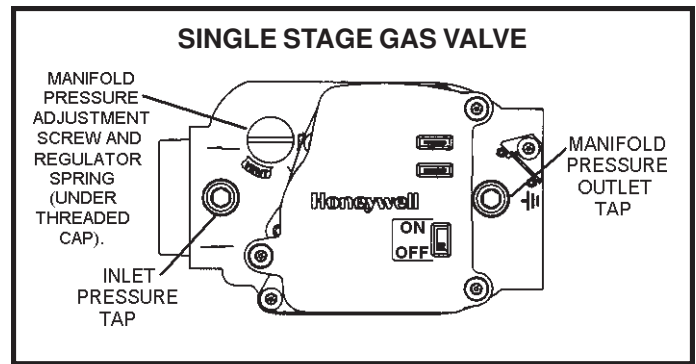

Figure 5
2. Remove the heating compartment access panel. Move the automatic gas valve switch to **OFF**. See Figure 5 or 6.
6. Move the switch on the gas valve to **OFF**. Do not force the switch. See Figures 5 or 6.
7. Wait five (5) minutes for any gas to clear out. If you then smell gas, **STOP!** Immediately call your gas supplier from a neighbor's phone. Follow the gas supplier's instructions. If you do not smell gas, go to the next step.
A threaded plug on the outlet side of the gas valve provides access to the manifold pressure tap. See Figure 5.
6. If necessary, make adjustments. Figure 5 shows location of adjustment screw.
A threaded plug on the inlet side of the gas valve provides access to the supply pressure tap. See Figures 5 or 6. Check gas line pressure with unit firing at maximum rate. Low pressure may result in erratic operation or underfire. High pressure can result in permanent damage to gas valve or overfire.